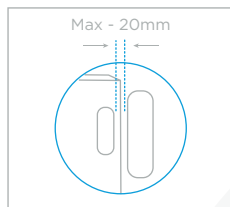

Fig 2
- Position the sensor and magnetic contact as close to each other as possible. For optimum performance please ensure the gap is no more than 10mm. The maximum supported gap is 20mm (fig 2). To confirm that the sensor is working, separate the contacts and the red LED will start flashing.